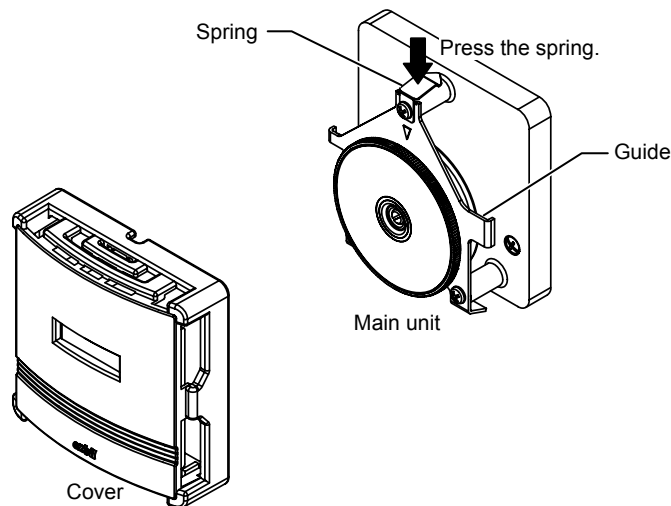

Figure 3. Cover removal
- Hold the guide, but not the setting dial, when lifting the Neostat main unit. (See Fig. 3)